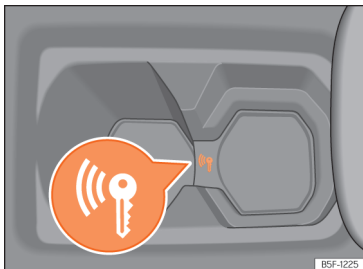

Fig. 115 On the centre console: emergency start.
- Immediately after pushing the start button, place the key in the drink holder of the centre console »» Fig. 115, as close as possible to the Kessy logo.